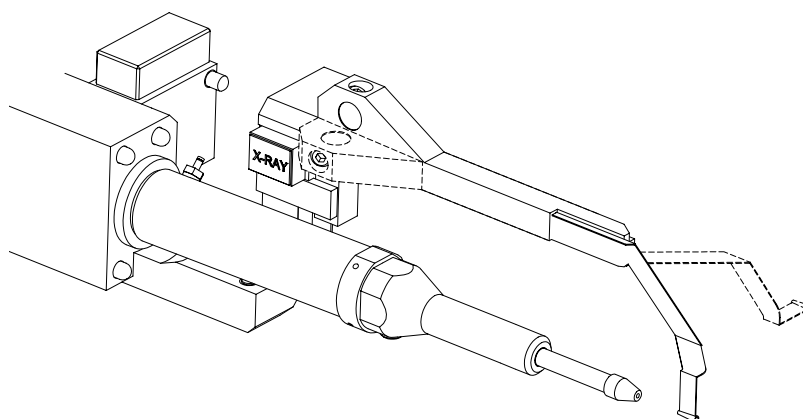

Figure 9.10.2 Schematic showing the rotated beam stop (dashed line shows “up” position and solid line shows “down” position).
3. Flip the beam stop to the DOWN position (see figure 9.10.2)
2. Flip the beam stop to the UP position (see Figure 9.10.2)
2. Flip beamstop to the “up” position (see Figure 9.10.2)